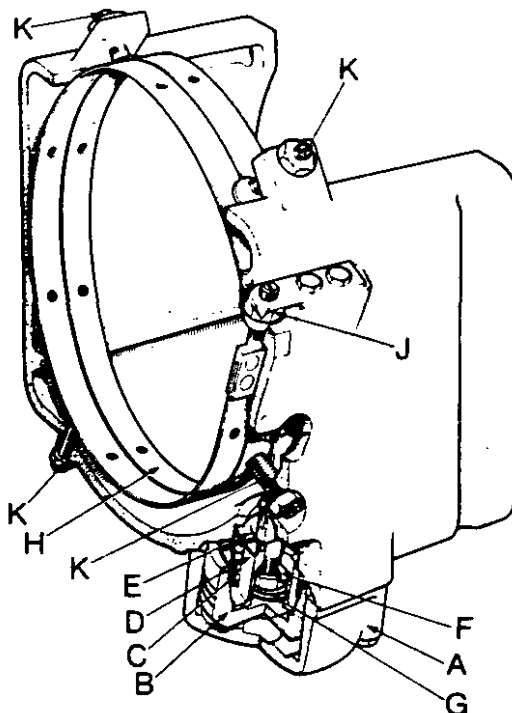

FIGURE 52 BRAKE BAND ASSEMBLY
63. Align the brake bands so that the fixed ends are central in the casing holes, then install the spherical washers and nuts to both ends of the brake bands. See figure 52.